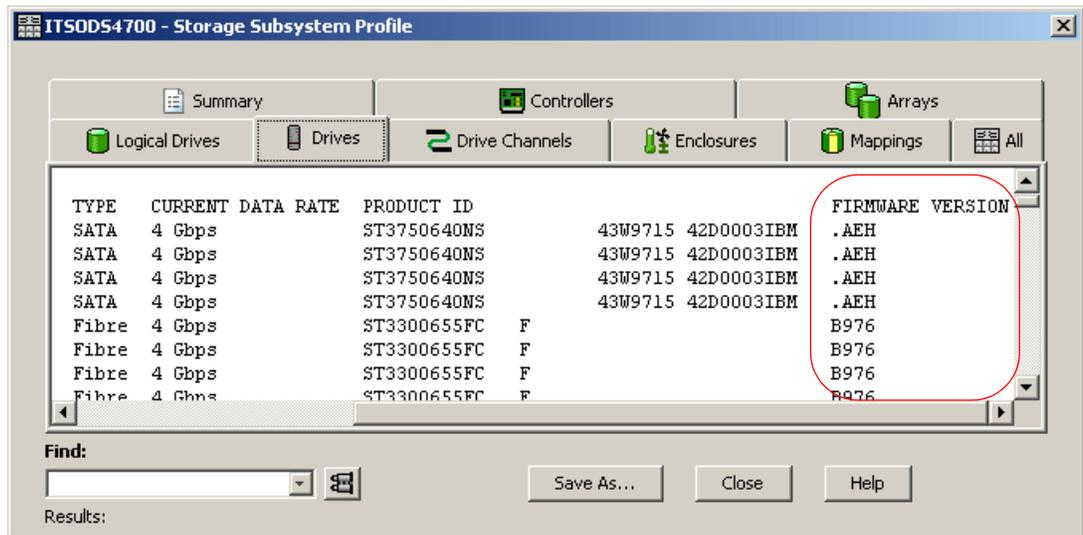

Figure 12-3 Viewing disks firmware
- Click the **Drives** tab to see the drives information. Scroll to the right side of the window until the firmware version column is visible. Be aware that you might have different drive types in your enclosures, so you can find multiple versions. See Figure 12-3.